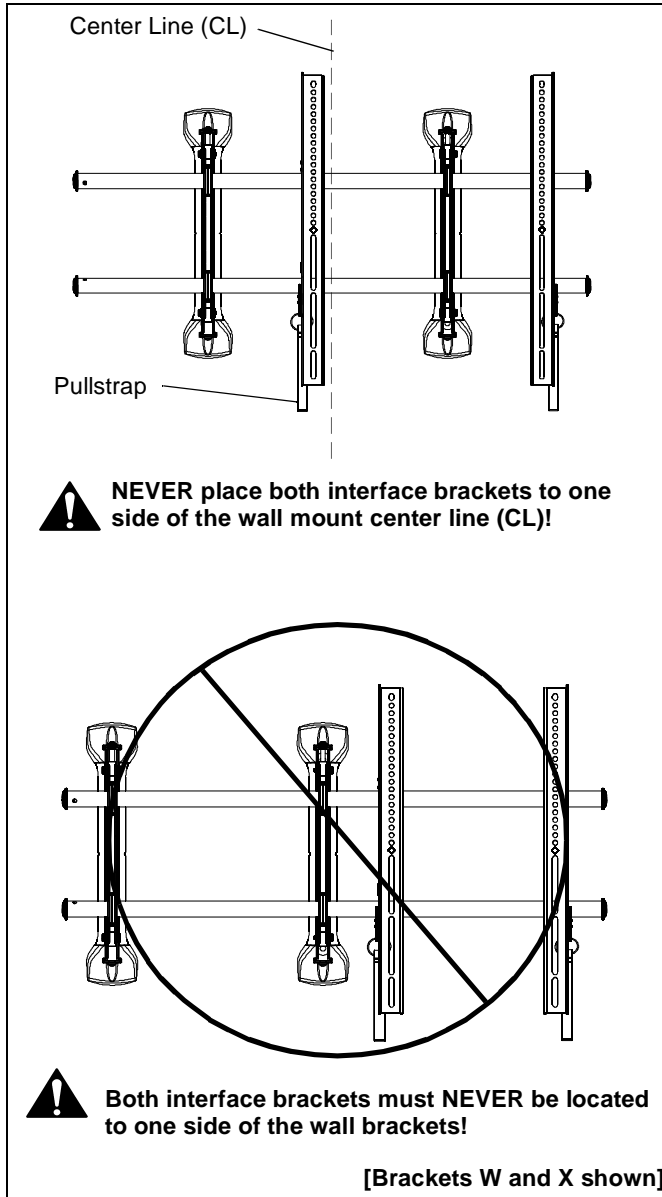

Figure 8
2. Adjust Velcro® pull strap (if necessary) so it does not extend beyond bottom of screen. (See Figure 8)
**NOTE:** Do NOT allow both interface brackets (W and X or Y and Z) to be located on same side of wall bracket. (See Figure 8)
**NOTE:** NEVER place both interface brackets (W and X or Y and Z) to one side of the wall mount center line! (See Figure 8)